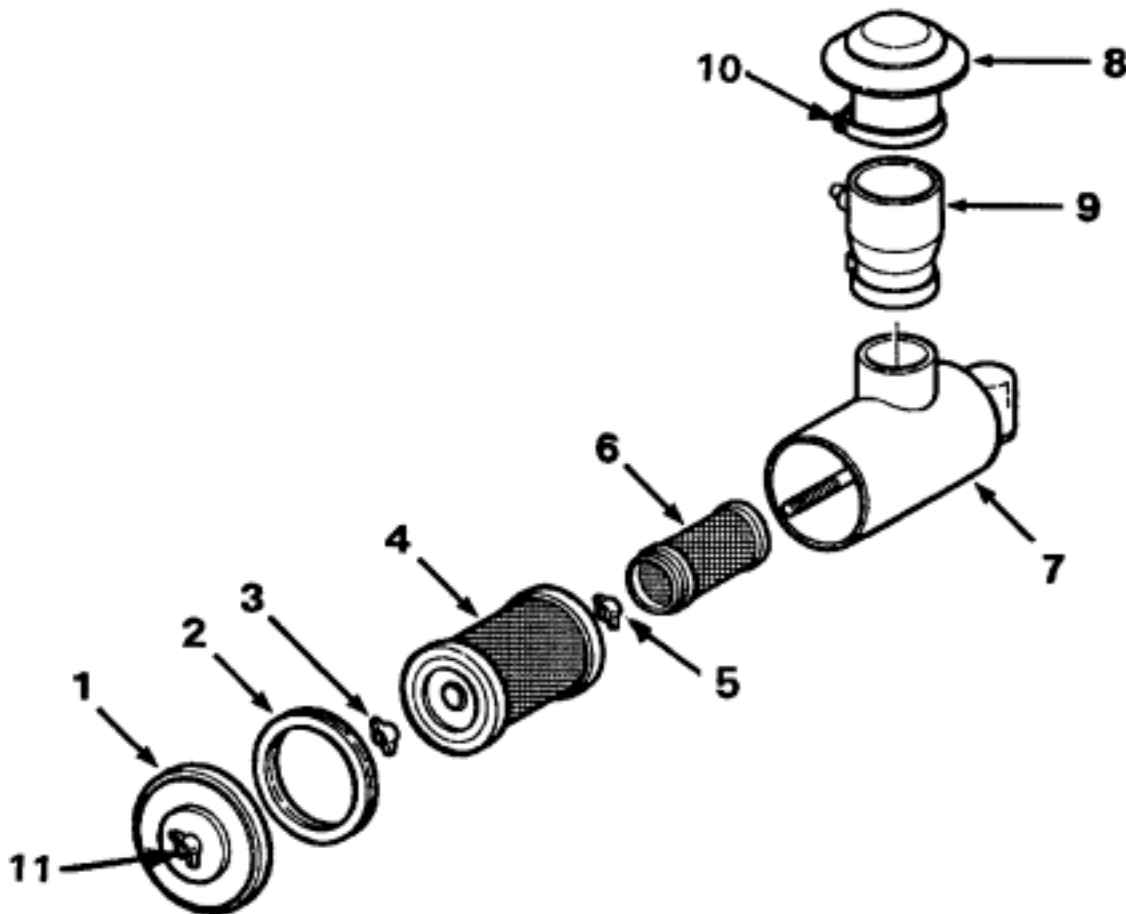

Fig. 5.2. Air Cleaner with Connections (exploded view)
5.6.1. PRE-CLEANER (Fig. 5.2)
5.6.2. AIR CLEANER (Fig. 5.2)
**5.6.2.1. PRIMARY FILTER ELEMENT (Fig. 5.2)****Service**
**Removal (Fig. 5.2)**
1. Stop the engine, lower the equipment to the ground. Open the left engine access door. Remove all dust from the element removable end of the air cleaner body (7).
2. Unscrew the wing nut (11) and remove the cover (1) and the cover gasket (2) from the air cleaner body (7). Unscrew the wing nut (3) and carefully remove the primary element (4) from the body taking care not to dislodge dust from the dirty element onto the safety element (6).
3. Check the condition of the gasket on both sides of the primary element (4). If the gasket is damaged or missing, replace the primary element.
4. Remove all dirt from the inside air cleaner body (7) with a damp cloth. A small amount of non-sudsing detergent added to the water will remove the soot.
## Installation (Fig. 5.2)
Removal (Fig. 5.2.)
Installation (Fig. 5.2.)